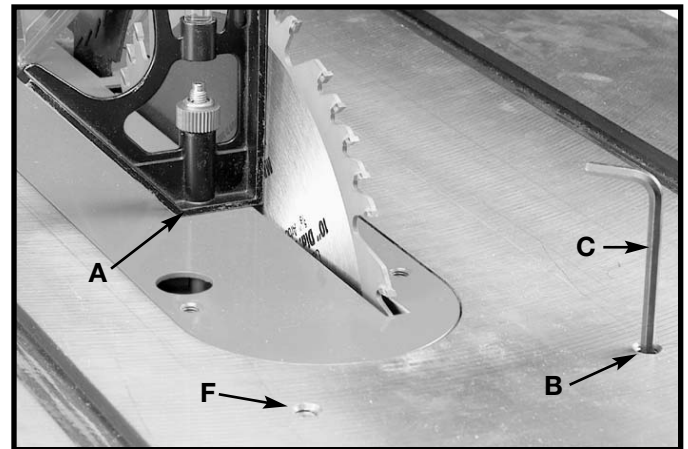

Fig. 60
3. Use a combination square (A) Fig. 60 to see if the blade is at 90° to the table surface.
4. If the blade is not at 90° to the table, loosen set screw (B) Fig. 60 with 5/32" hex wrench (C), and turn the blade tilting handwheel until the blade is 90° to the table. Turn set screw (B) clockwise until it bottoms.
7. If the blade is not at 45° to the table, loosen set screw (F) Fig. 60, and turn blade tilting handwheel until the blade is 45° to the table. Turn set screw (F) clockwise until it bottoms.